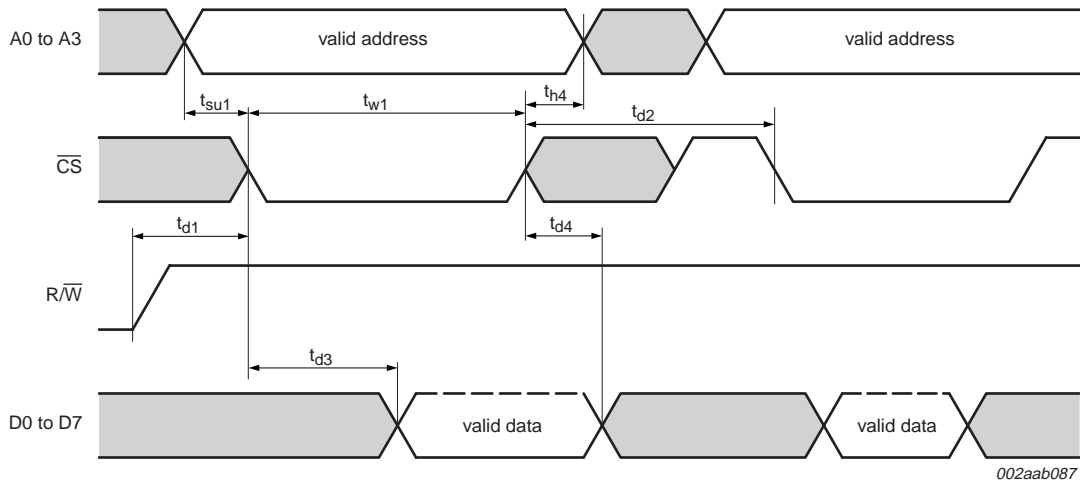

Fig 14. General read timing
- (2) CS timing during a read cycle. See Figure 14.